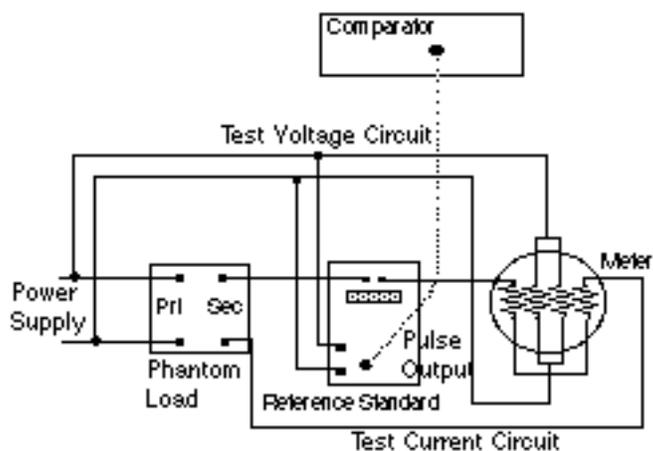

Figure 7.3 Test Connections
- 1 Connect the meter under test and the reference standard in the same circuit with all voltage coils in parallel and current coils in series as per standard meter testing procedures (Figure 7.3).